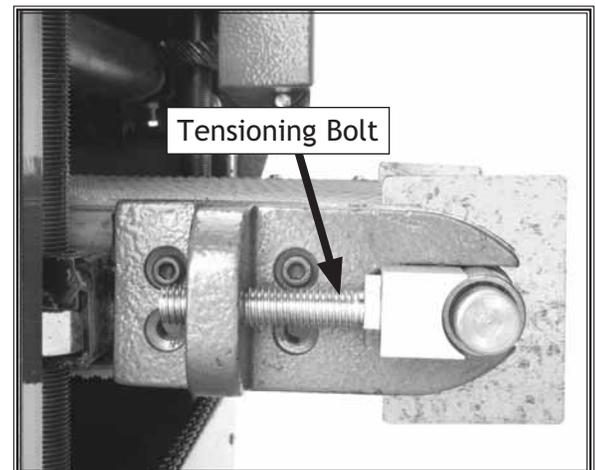

Figure 23. Conveyor belt tracking adjustment.
2. Determine which side the conveyor is tracking towards (the loose side) and tension the adjustment bolt (Figure 23) on that side until the conveyor tracks in the opposite direction.